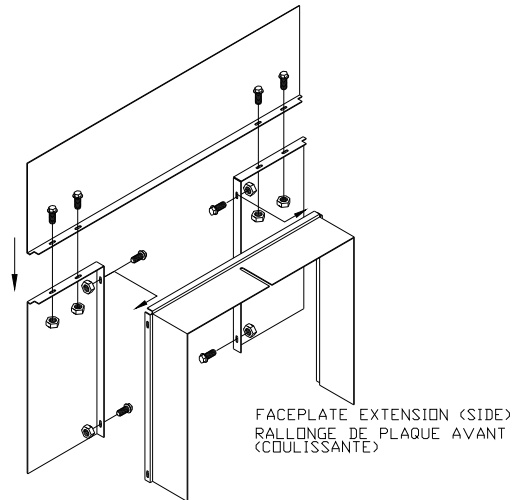

Figure 6
B. Place the faceplate face down on a flat, nonabrasive surface (see Figure 6) so that the sides are a bit towards the middle.